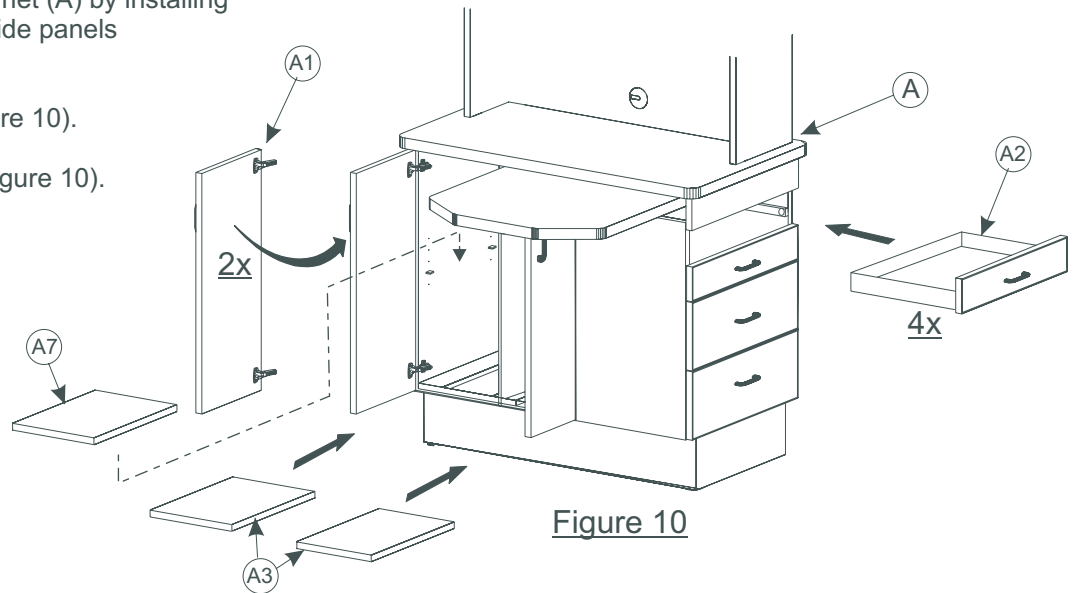

Figure 10
(see Figure 10).
Install (2) Doors (A1) (see Figure 10).
Install (4) Drawers (A2) (see Figure 10).